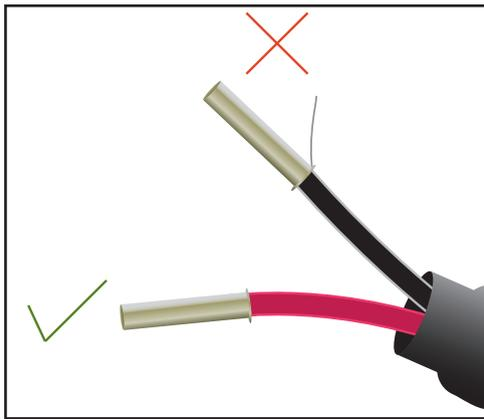

Figure 13 *Crimped Wires*
- a. As shown in *Figure 13* below, the crimps/wire ferrules should be applied so that there is no possibility of a conductor strand of a core becoming free.